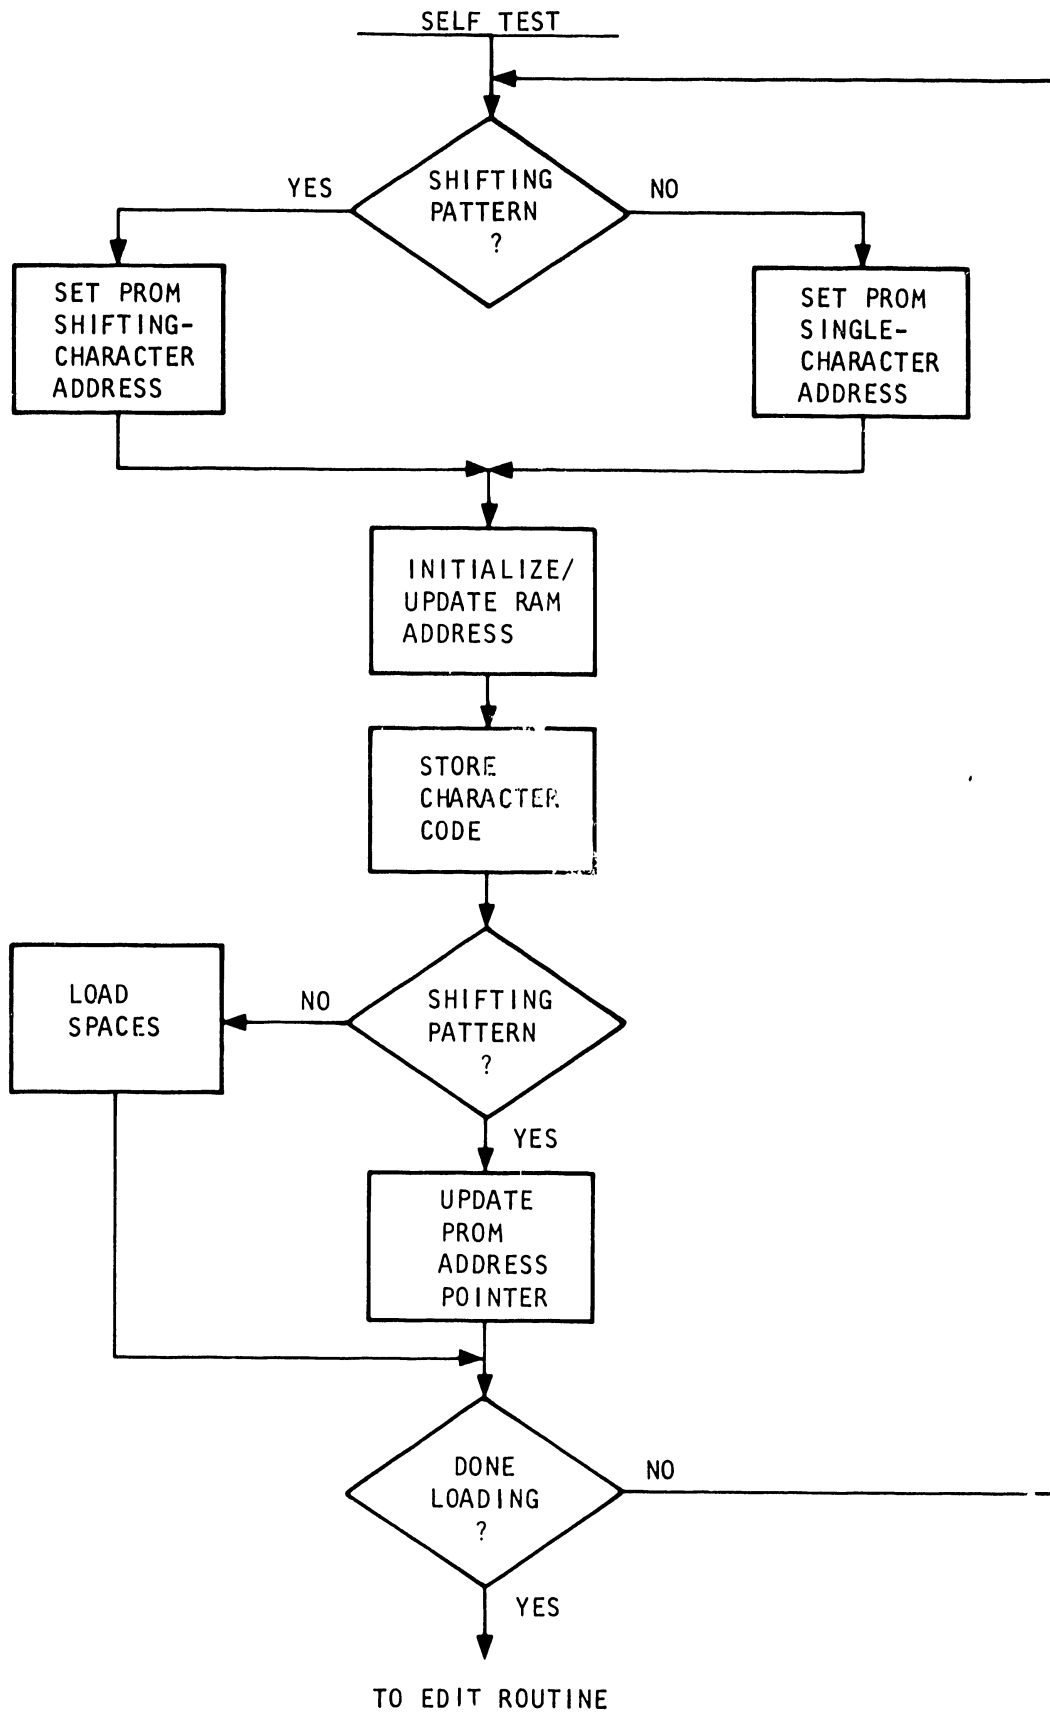

Figure 2-72. Self Test Routine
Since the line buffer holds up to 136 codes, this loop will be executed at most 34 times to complete one (1) line and allow exit for printing. Figure 2-72 shows the instruction sequence for the self-test routine for both 20-bit and 24-bit Processor CCAs.